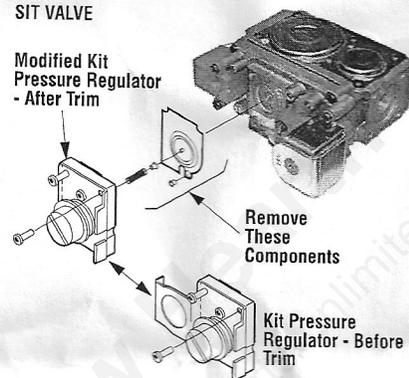

Figure 8
Step 11. SIT Systems - See *Figure 8*. Using a Torx T20, or a flat screwdriver, remove and discard the three pressure regulator mounting screws. Remove the pressure regulator, spring, poppet, diaphragm and bushing. Discard all removed components.